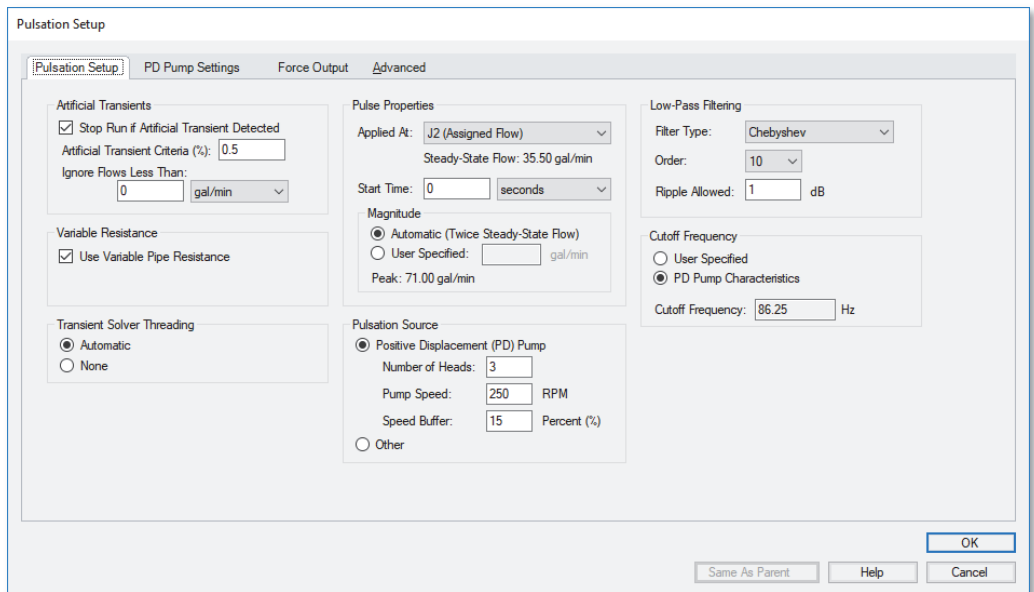

Figure 6.10 Pulsation Setup window with input
1. Define the Pulse Properties on the Pulsation Setup tab (see Figure 6.10 for all input on the Pulsation Setup tab in the Pulsation Setup window)
- a. Select Positive Displacement (PD) Pump